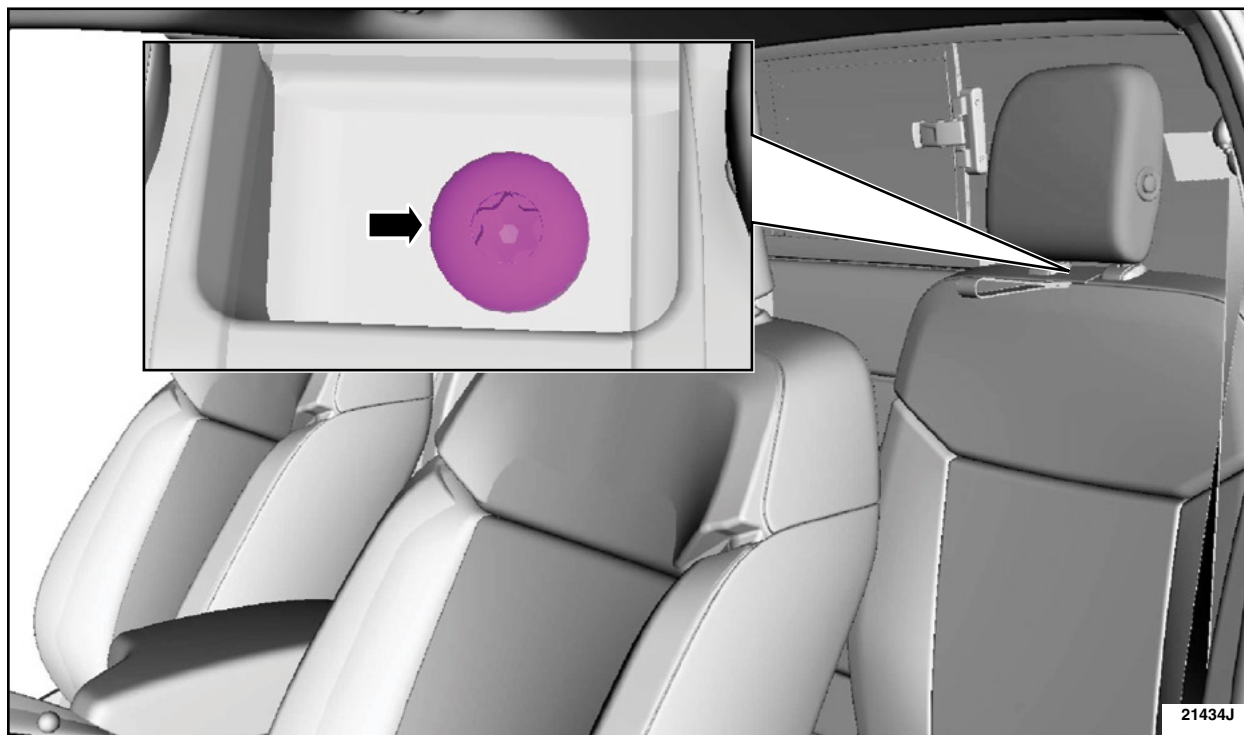

FIGURE 10
12. On both sides, install the rear seat backrest bolts. See Figure 10.